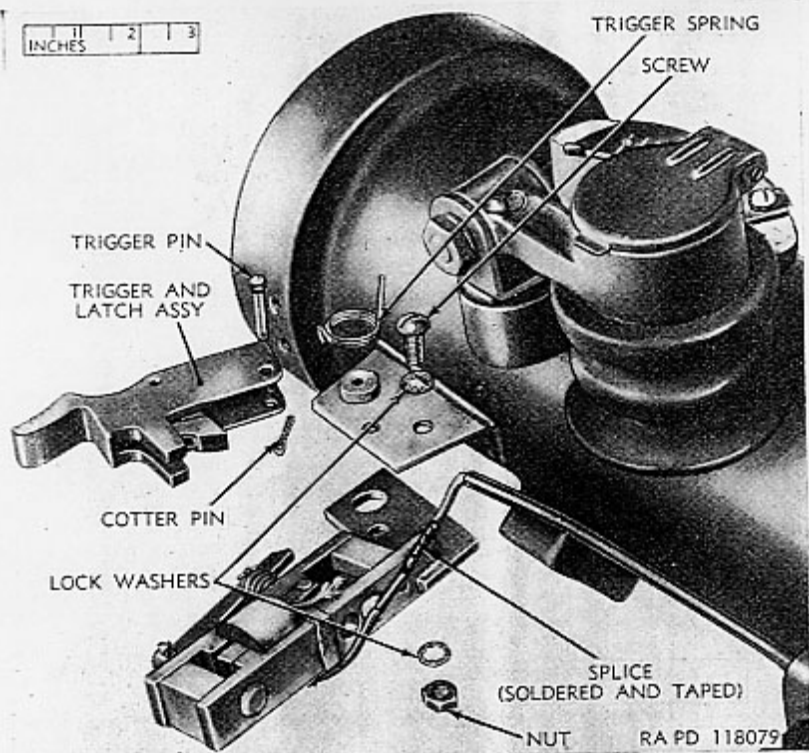

Figure 30. Firing Mechanism B7140325 (double action)—removed from launcher but not disconnected
- (c) At the firing mechanism, disconnect the contact lead wire which leads to the contact spring clamp (fig. 30). Remove the insulating tape, heat and disconnect the soldered joint between the lead from the field coil and the contact lead wire.
- (d) Remove the cotter pin from the trigger pin and withdraw the trigger pin (fig. 30). This frees the trigger and latch assembly. Take care not to drop the trigger spring.
- (1) If the slot in the trigger becomes clogged with dirt, remove the trigger and latch assembly (fig. 30) for cleaning.
- (b) Clean the slot in the trigger. Lubricate the trigger latch (par. 35e (2)). See that the latch moves freely. Lubricate the roller on the trigger latch and see that it rotates easily. Lubricate firing mechanism (par. 35e). Wipe off excess oil.